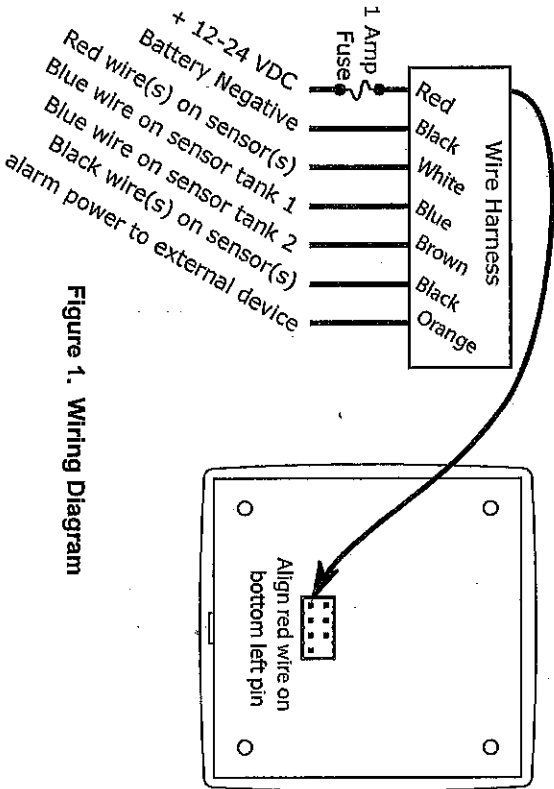

Figure 1. Wiring Diagram
3. Strip about 5/16 inches from the wires and connect the wires as described in Figure 1. We suggest using 22-18 waterproof heat shrink butt splice crimp connectors for your connections.
4. Plug the wire harness into the display monitor as shown in Figure 1.